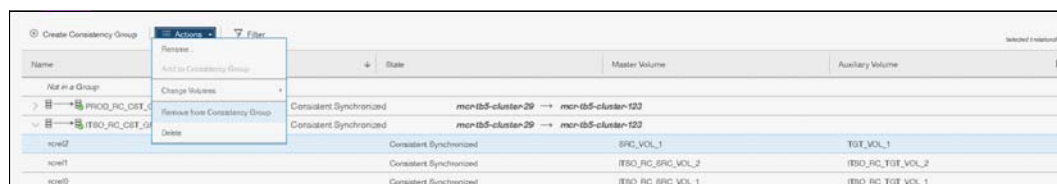

Figure 10-130 Remove from Consistency Group action
4. Click **Actions** → **Remove from Consistency Group**, as shown in Figure 10-130.